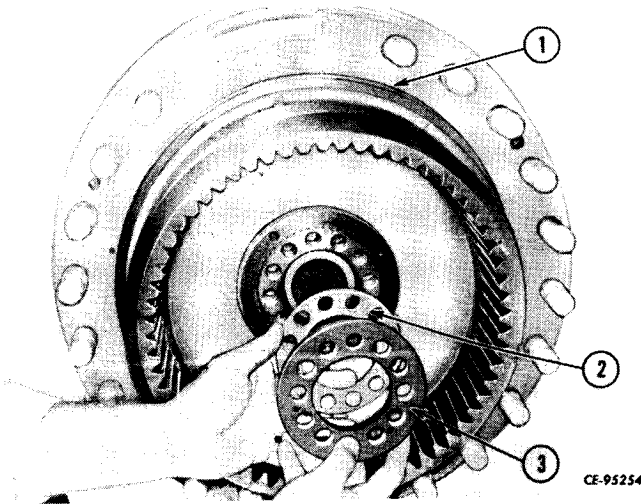

Figure 6-11
Remove the seal ring (1, Fig. 6-11) from the wheel hub shoulder. Remove the retainer cap screws, retainer (2) and shim pack (1). Tie shim pack together and tag to indicate which side of the axle assembly they were removed from. Clean all sealant from retainer cap screws.